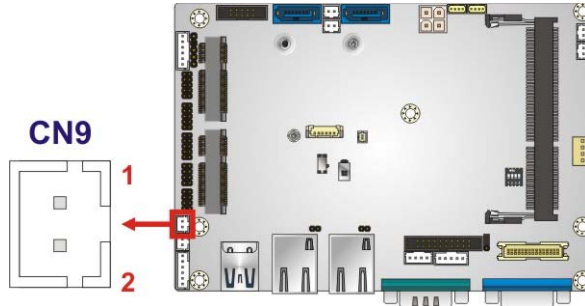

Figure 3-10: IPMI LED Connector Location
- CN Location:** See **Figure 3-10**